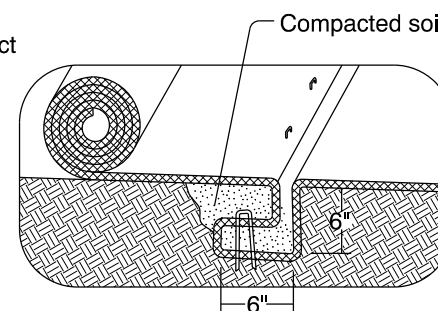

FIGURE A3
2. Construct check slots across channel bottom at 25' spacing and at the end of each mat (Fig. A3 or A4).